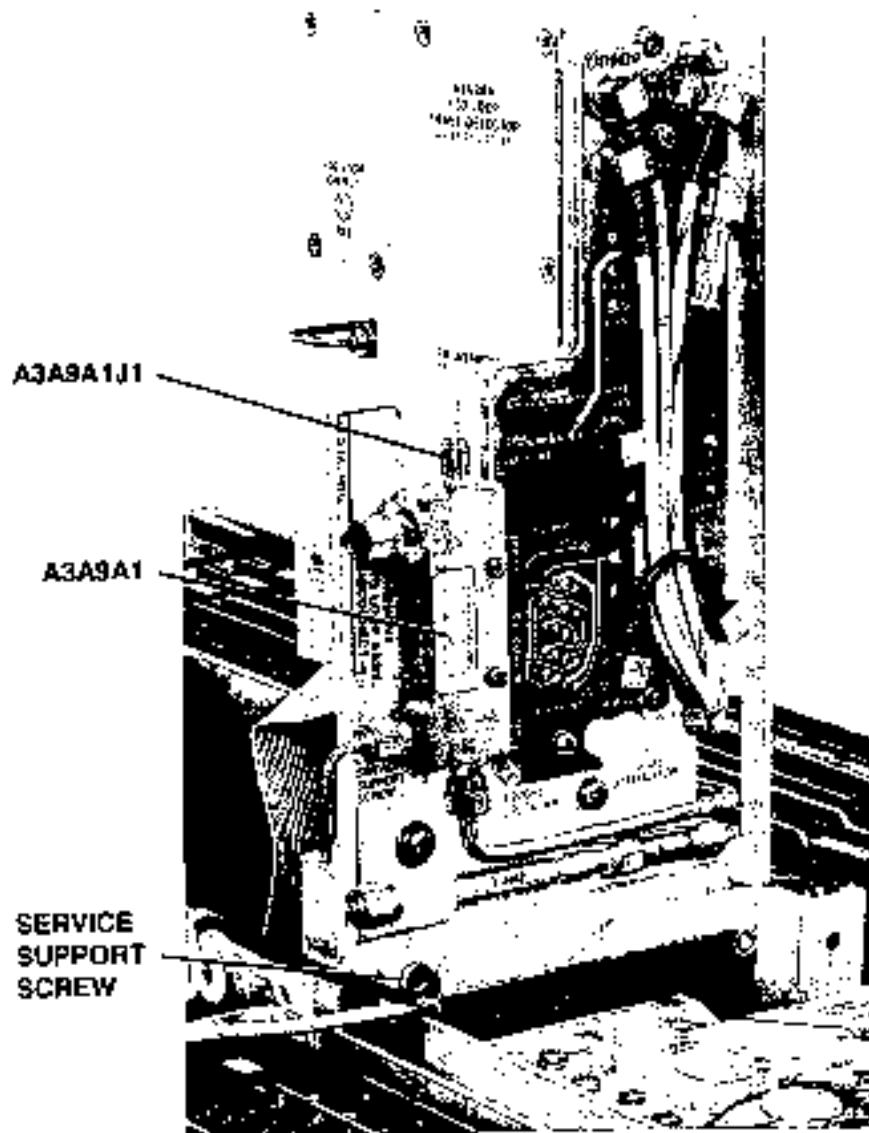

Figure 2. YTO Loop Assembly in Service Position
- e. Refer to figure 2. Lift the assembly out until it is clear. Rotate the back of the assembly up and forward, then hook it over the DCU divider as shown in the figure. Secure the assembly with the captive Service Support Screw as shown.